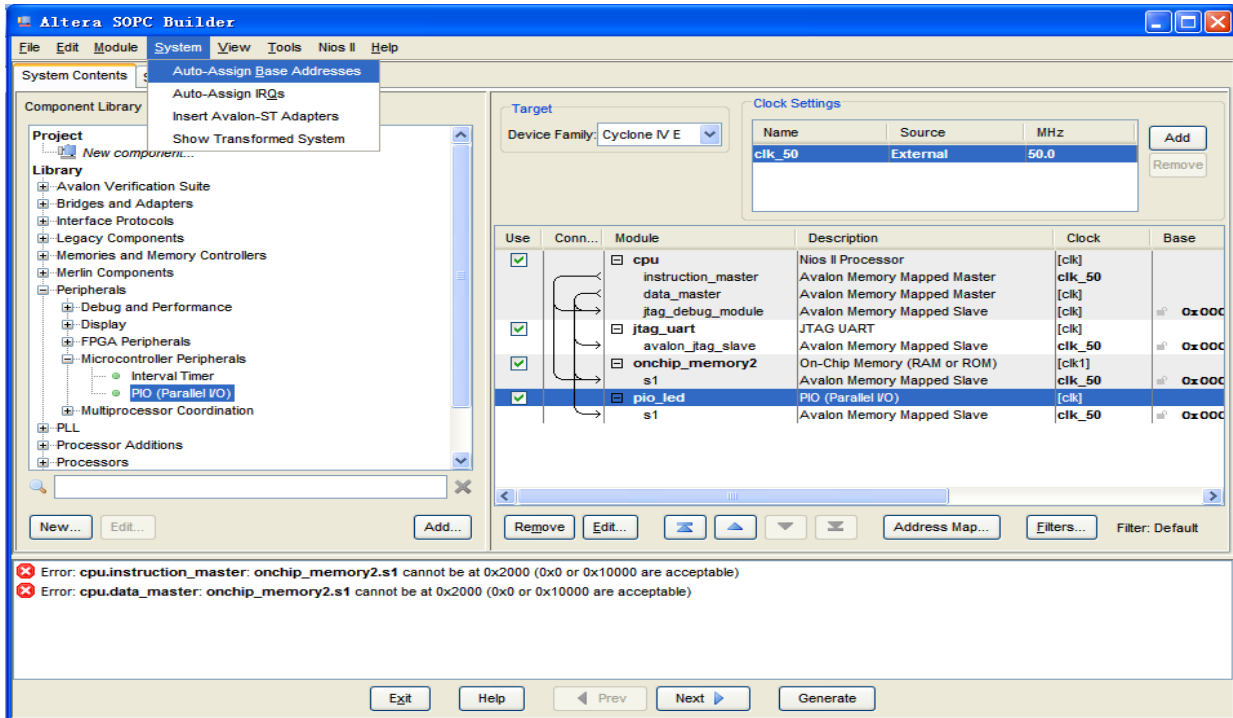
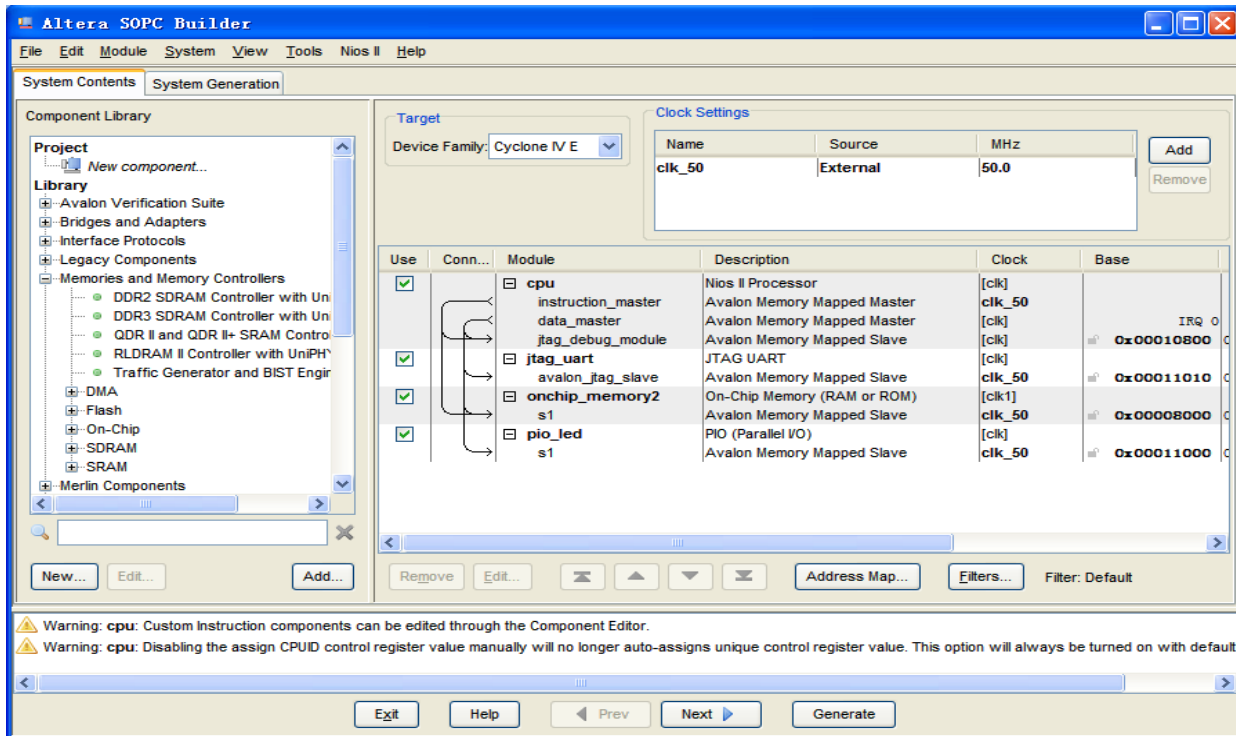

Figure 7-34 Auto-Assign Base Addresses
Figure 7-35 No errors or warnings
22. Choose **System > Auto-Assign Base Addresses** as shown in **Figure 7-34**. Then choose **File > Refresh System**. After that you will find that there is no error in the message window as shown in **Figure 7-35**.